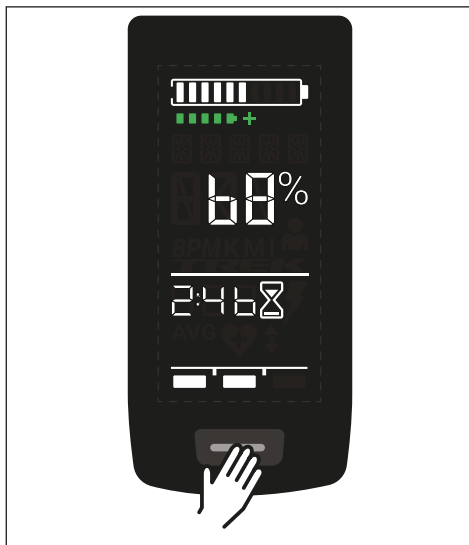

Fig. 3: Button on Display
- Switch on the drive unit by **shortly** pressing the button (see Fig. 3) on the Display.
- Switch off the drive unit by **long** pressing the button (see Fig. 3) on the Display.